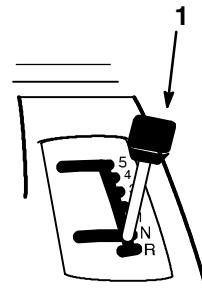

Figure 7
3. Move the ground speed selector into neutral (N) (Fig. 7).